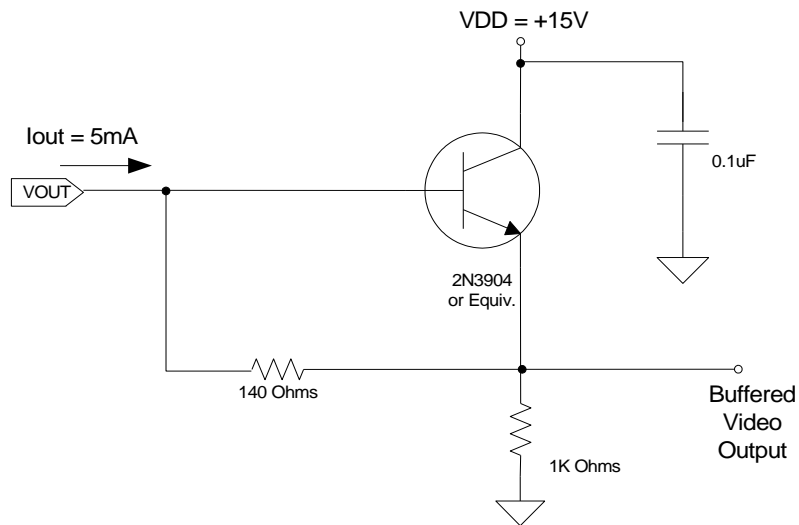

Figure 3: Typical Output Structure Load Diagram
The output consists of a floating diffusion capacitance connected to a three-stage source follower. Charge presented to the floating diffusion (FD) is converted into a voltage and is current amplified in order to drive off-chip loads. The resulting voltage change seen at the output is linearly related to the amount of charge placed on the FD. Once the signal has been sampled by the system electronics, the reset gate (RG) is clocked to remove the signal and FD is reset to the potential applied by reset drain (RD). Increased signal at the floating diffusion reduces the voltage seen at the output pin. To activate the output structures, an off-chip current source must be added to the VOUT pins of the device. See Figure 3.